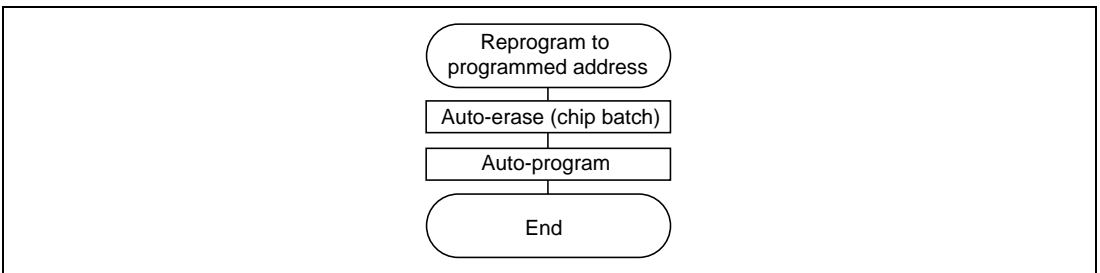

Figure 15.24 Reprogramming to Programmed Address
- When programming addresses which have previously been programmed, carry out auto-erasing before auto-programming (figure 15.24).